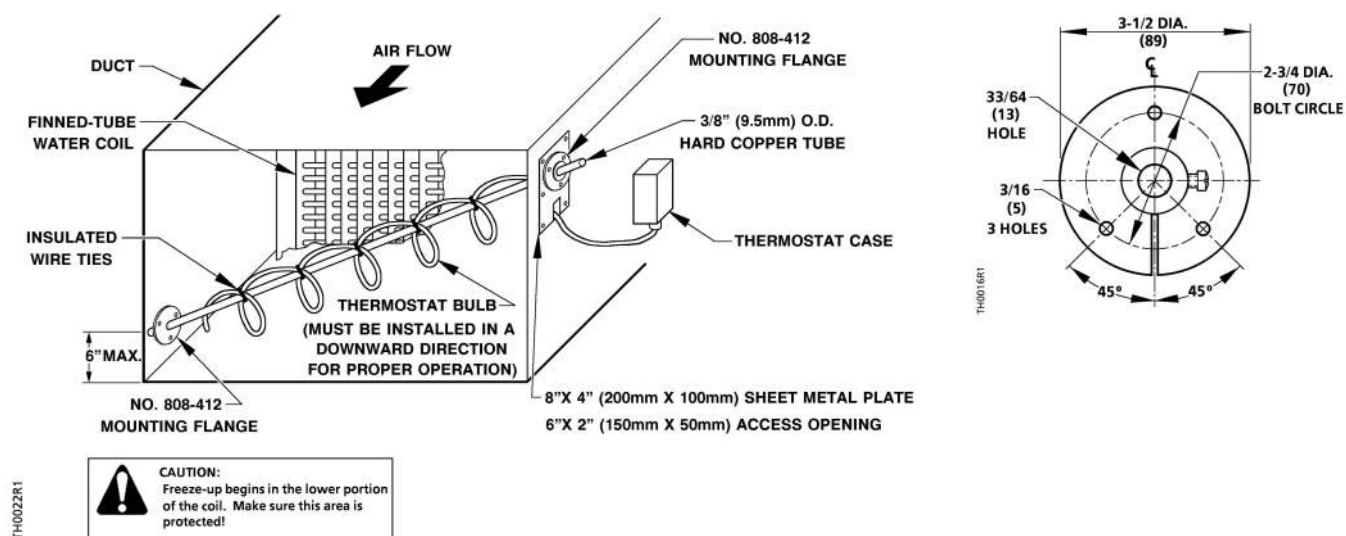

Figure 2. Bulb Mounting for Limited Access Ducts with 808-412 Mounting Flange.
Dimensions	See Figures 2 and 5
### Limited Access Ducts (Figure 2)
4. Cut a length of copper tubing to fit diagonally across the duct. Stretch out the bulb and wrap it around the tubing. See Figure 2.